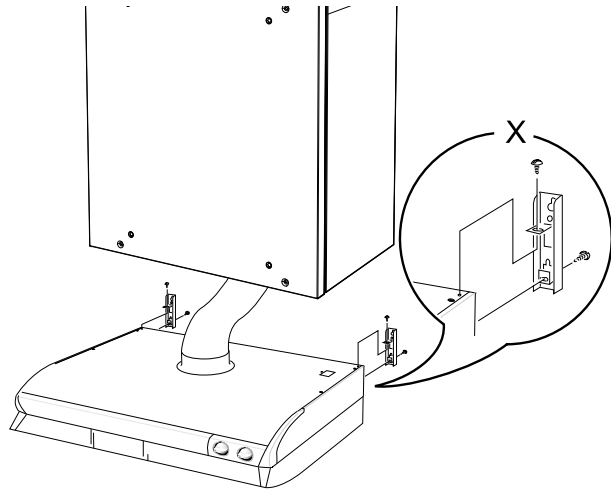

Fig. 10 Installation of the cooker hood
1. Use mounting mechanism which is delivered together with the cooker hood (figure 10, pos. X).